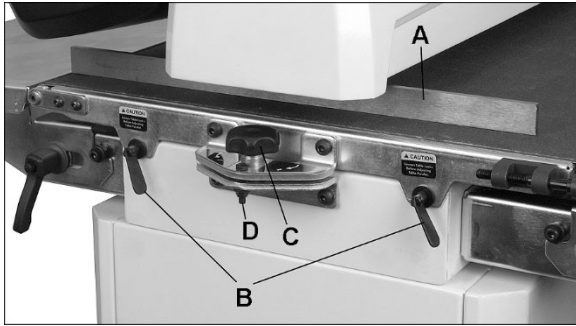

Figure 8-4: drum alignment
3. Insert gauge (A, Figure 8-4) between drum and conveyor table at outboard side.
7. Loosen both table locks (B, Figure 8-4)
8. Turn knob (C) to raise or lower outboard end of table. Follow directional marks on label: (+) to raise, (-) to lower.
9. Tighten table locks (B).
**Note:** When sanding narrow stock (less than 16"), return conveyor table to parallel position. Turn knob opposite direction until lock nut (D, Figure 8-4) is contacted. The lock nut provides a positive stop for table parallelism.